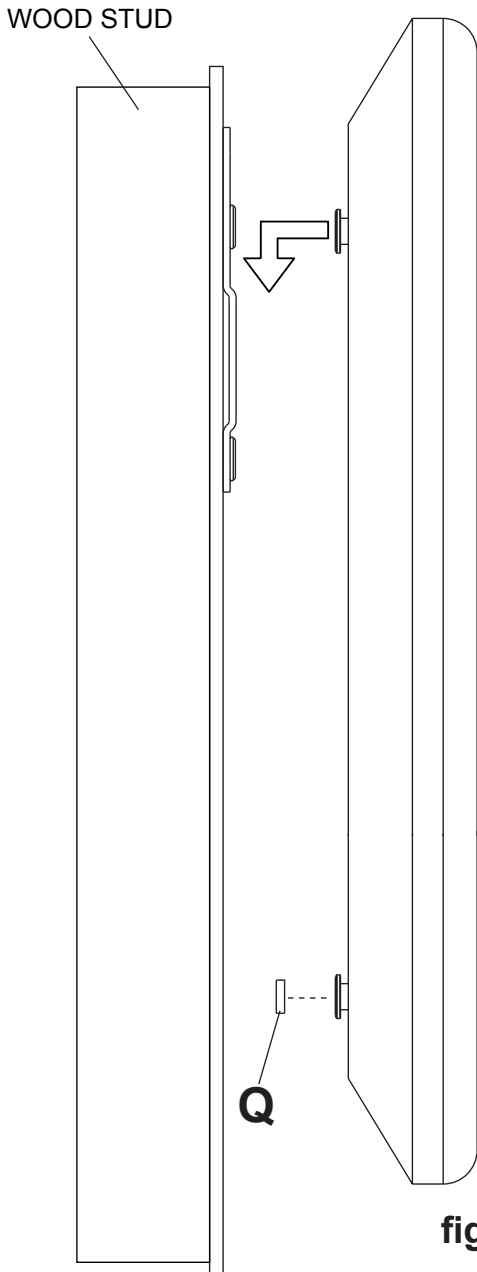

fig. 3.1
- 3** Apply cloth bumpers (**Q**) to bottom mounting screws as shown in figure 3.1.